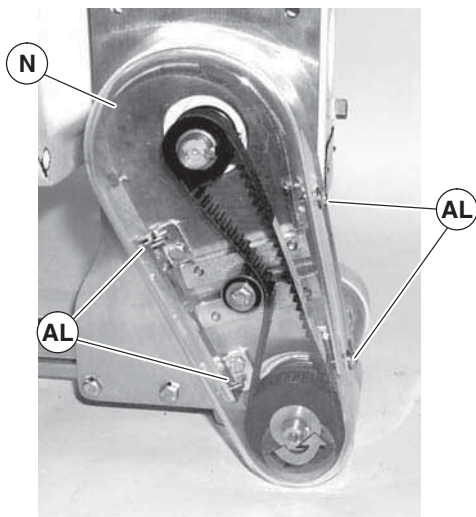

Figure 24
1. Loosen four screws (Figure 24, item AL) and remove cover (N).
Do not over-tighten screws (Figure 24, item AL).
- Attach cover (Figure 24, item N) with four screws (AL). Tighten screws to 35 in-lb (4 Nm).